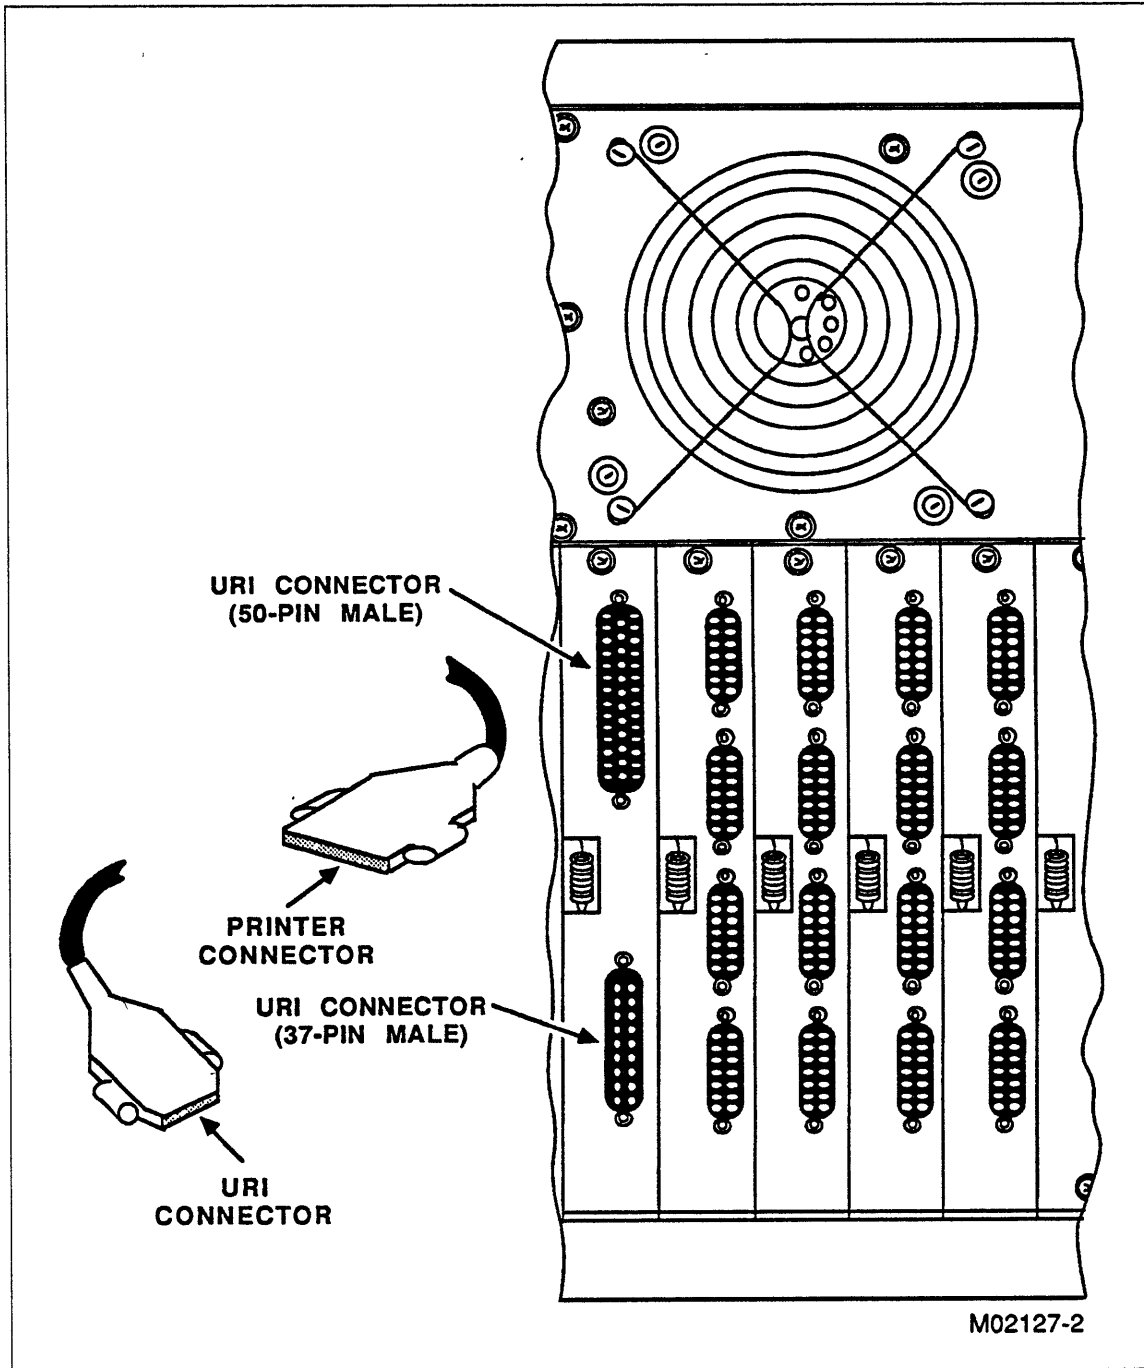

Figure 3-61. Installing URI Cables
1. Connect the cable(s) to the DI. The URI connectors are shown in figure 3-61. Tighten the locking screws with a straight slot screwdriver.